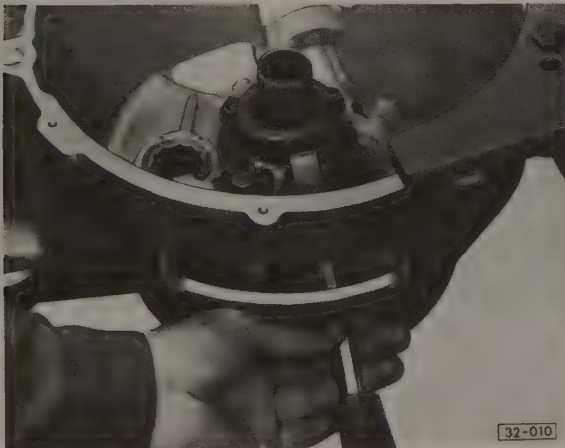

Fig. 5-6. Faulty torque converter seal being removed with chisel.
1. Pry the seal from the final drive housing using a chisel as shown in Fig. 5-6.